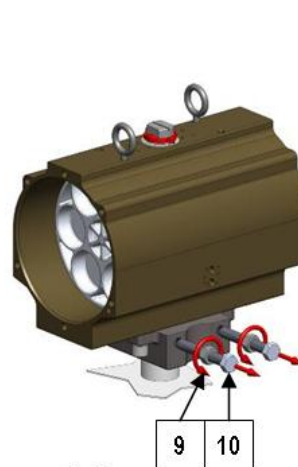

Fig.8
7. Loosen nuts ( 9 ) and unscrew completely screws ( 10 ) see Fig. 8;